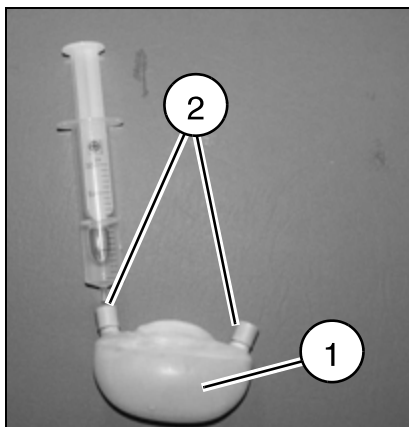

Fig. 75: Water bubble
- Fill the water bladder with water (approx. 100-120 ml, i.e. 5-6 syringes, each 20 ml) (1/Fig. 75 / p. 71):
- Insert the syringe needle through one of the valves (2/Fig. 75 / p. 71) and inject the contents of the syringe into the water bladder. The valve has a self-closing membrane.